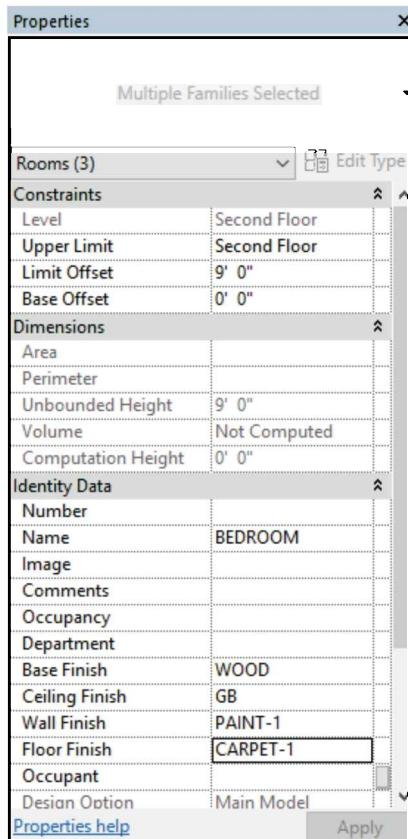

FIGURE 13-3.6 Properties for three selected rooms
13. Enter the following for the finishes (Figure 13-3.6):